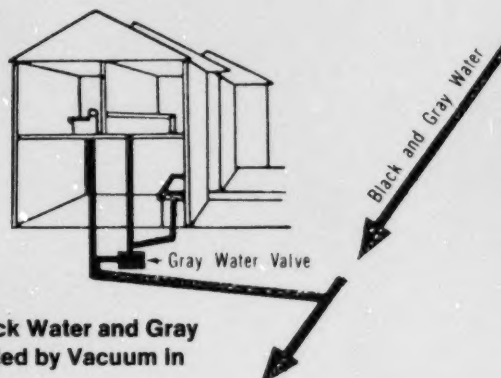

Figure 37-28. Option B — Black Water and Gray Water Transported by Vacuum in One Pipe
90. Black and gray water vacuum transport in a single pipe is used in shopping centres, hotels, schools, hospitals, and factories, and for building renovations, wherever the advantage of horizontal piping or vertical lift is required (Figure 37-28).